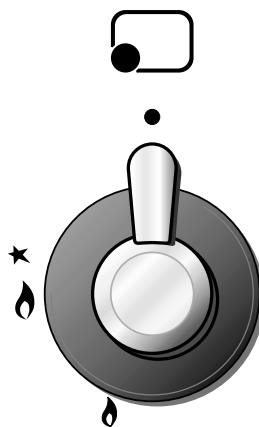

Fig. 4.3
Each hob burner is controlled by a separate gas tap operated by a control knob (fig. 4.3) which has 3 positions marked on the knob, these are:
- 1) Lightly press and turn the knob anti-clockwise, and make knob indicator to match with the symbol ★ printed on the control panel (fig. 4.3).